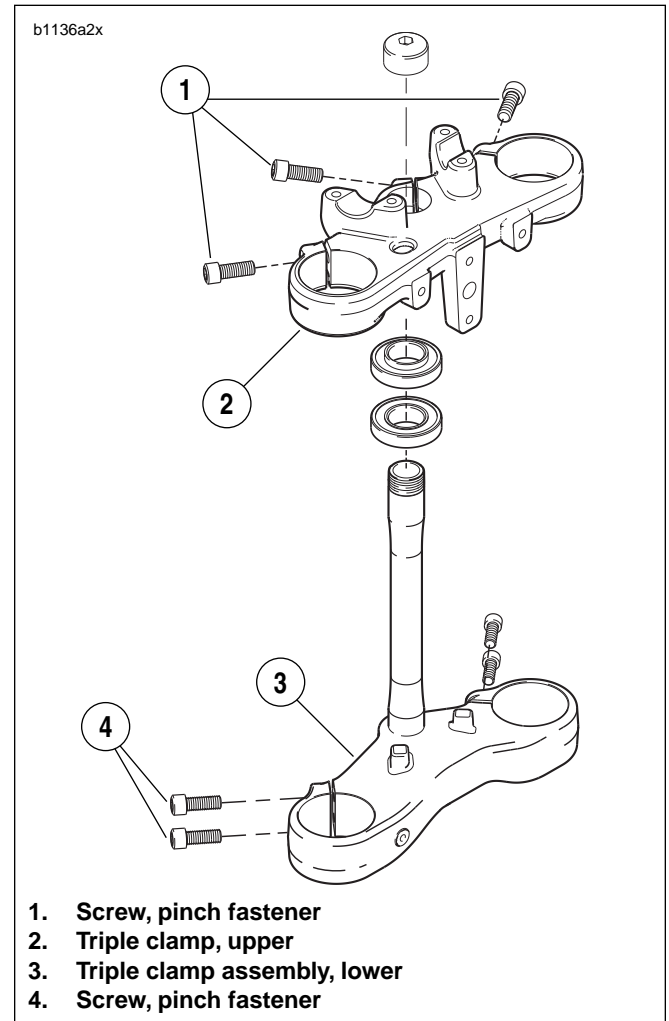

Figure 2-65. Upper and Lower Fork Clamp Assembly
4. See Figure 2-65. Loosen upper and lower fork clamp pinch fasteners (1, 4).
6. See Figure 2-65. Remove fork from lower fork clamp (3).